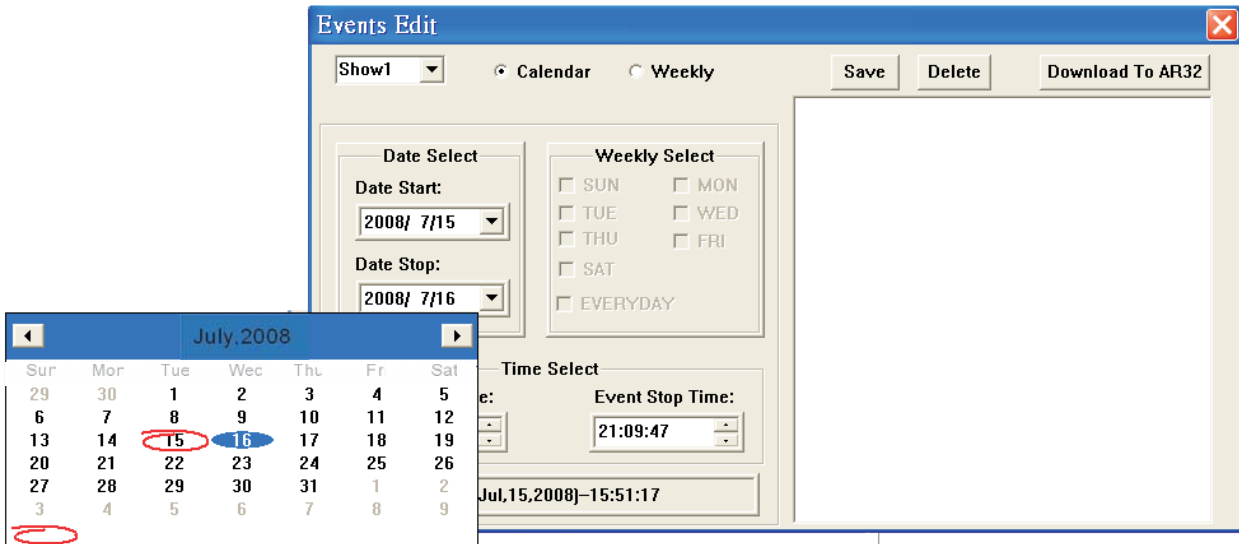

Figure 23
1. Select a Date Start and Date Stop from the Date Select area (Figure 23).